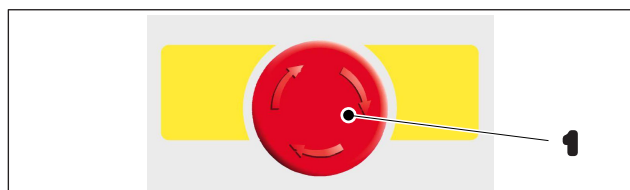

Fig. 10 Emergency stop button
1. **Holding down the Emergency stop button** (Fig. 10/1):